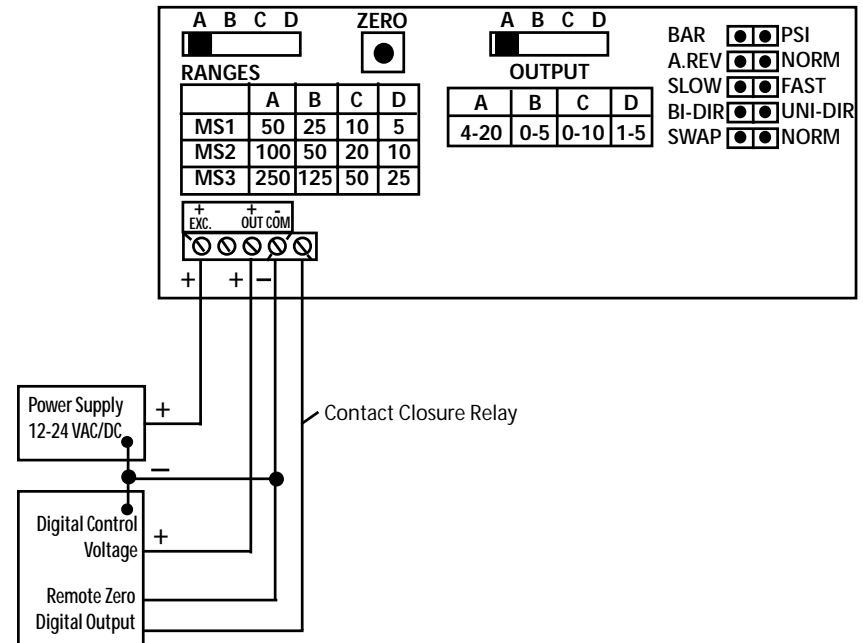
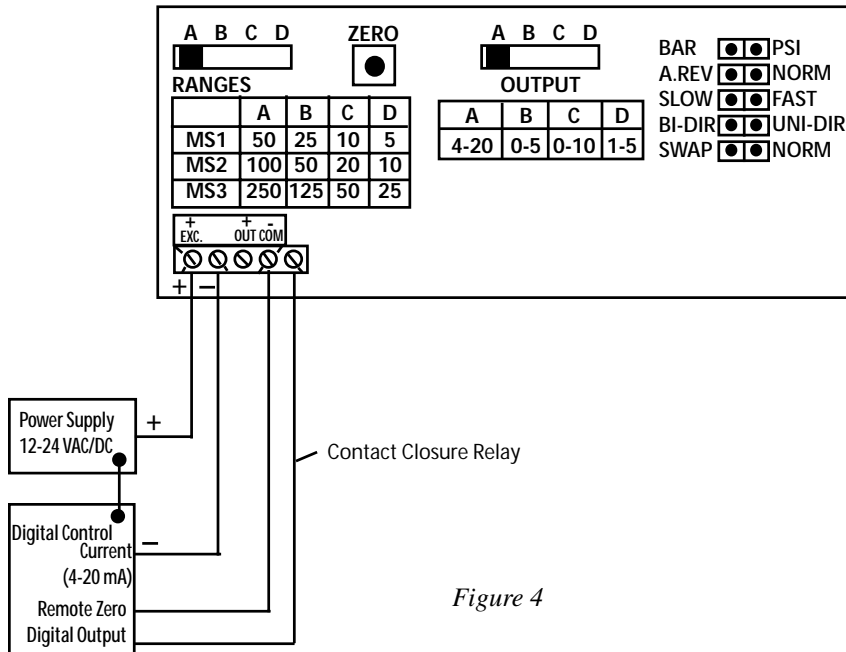

Figure 5
Figure 4
**Auto Zero Button:** Press and hold the "ZERO" push-button for 2 seconds to automatically reset zero or provide contact closure on "Remote Zero, see figure 4, pg. 8, and figure 5, pg. 9 .